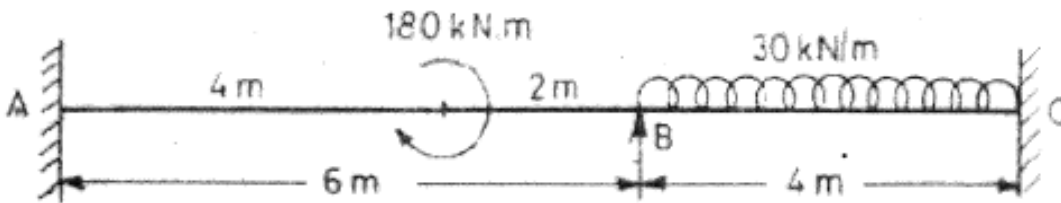

Fig. 3
3. A continuous beam ABC fixed at the ends is loaded as shown in fig. find the reactions and support moments. Draw also B.M. and S.F. diagrams. Use moment distribution method for analysis. Refer Fig. 3